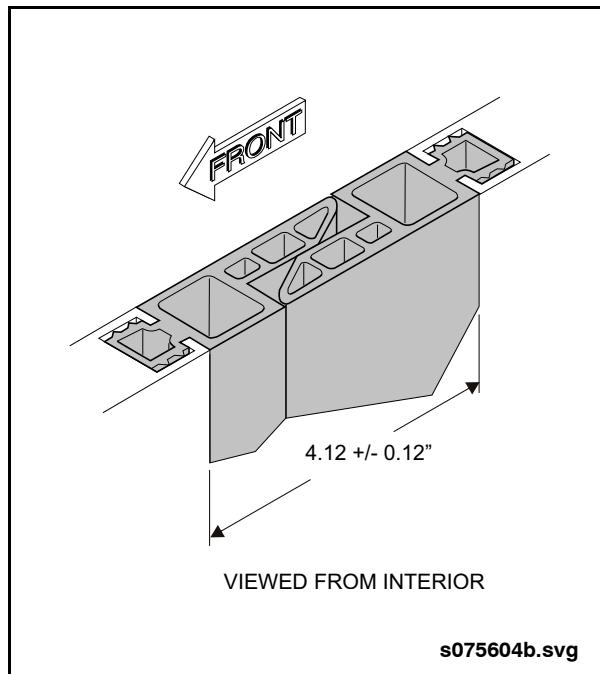

Fig. 16-16: Door Closure Adjustment
10. Apply air to the door motor. With the doors in the closed position, verify that the leading door edge metal to metal distance is $4.12" \pm 0.12"$ across the entire door length. See "Fig. 16-16: Door Closure Adjustment" on page 36. If adjustment is necessary, loosen the 3/18" - 16 acorn nuts securing the door panel to the door mounting brackets and move the panel forward or aft as required. Remove air from the door motor before making adjustment. Tighten mounting hardware to secure the adjustment.